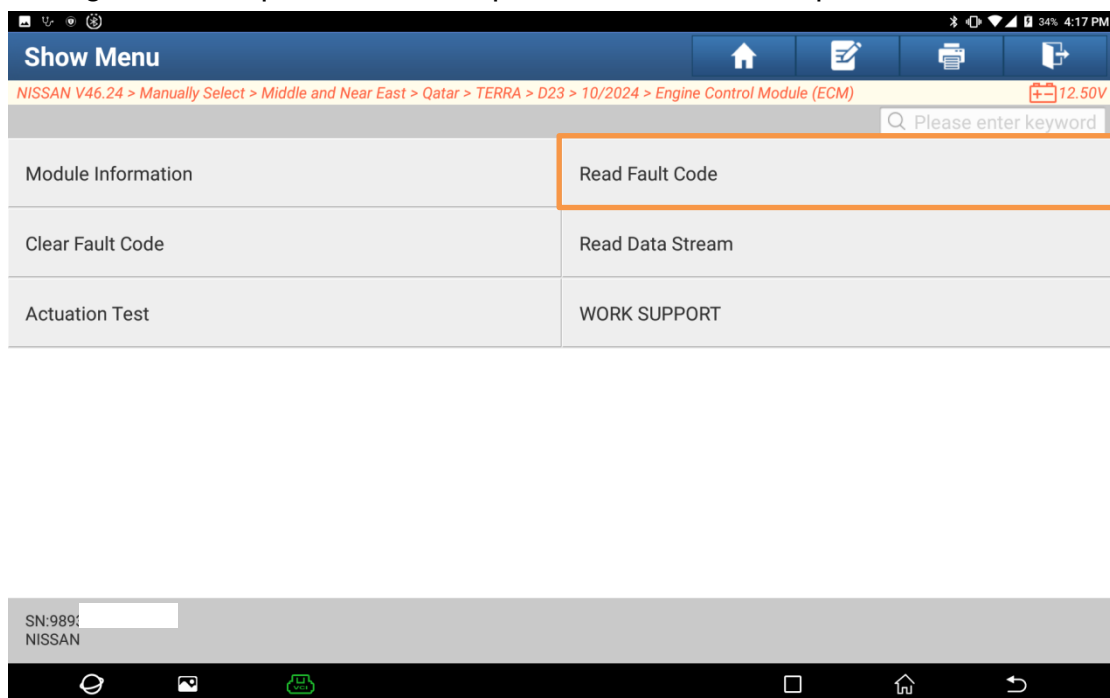
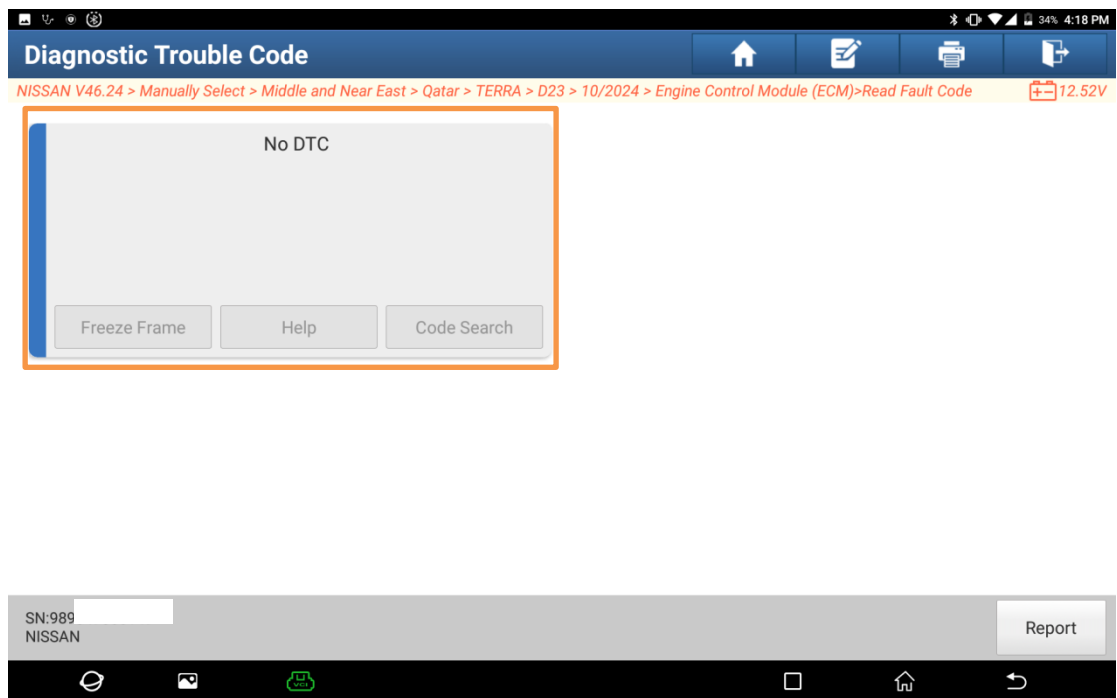

Figure 32
Figure 33
21. On the ECM menu interface, click [Read Fault Code] (Figure 32) to read the ECM DTC information. No DTC is displayed (Figure 33), indicating that the service regeneration function is executed successfully. The service regeneration special function operations are now completed.